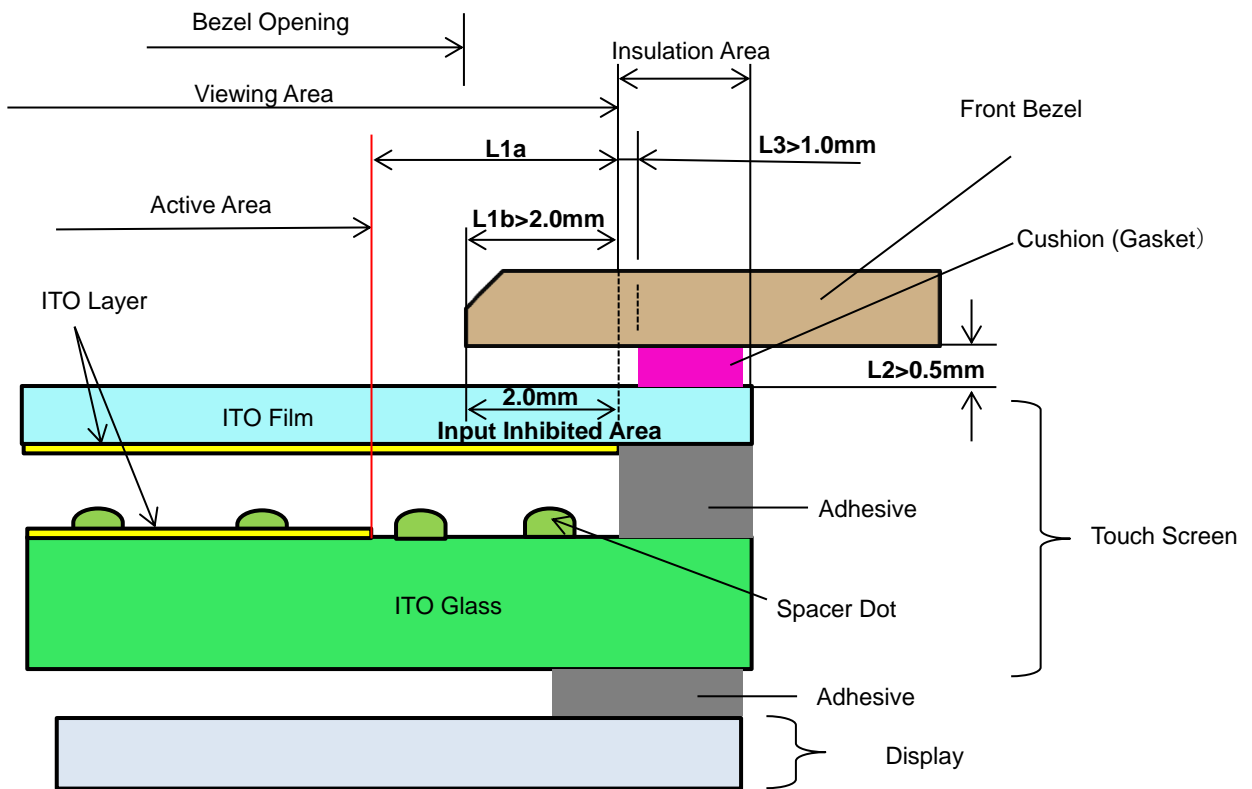

Fig.1
② Mounting Precautions
a. Bezel Edge (Fig.1&2)
b. Gap between Bezel and Touch Screen (Fig.1&3)
c. Area between Active Area and Viewing Area (Fig.1&3)
d. Input Inhibited Area (Fig.1&4)
e. Cushion (Gasket) (Fig1&5)